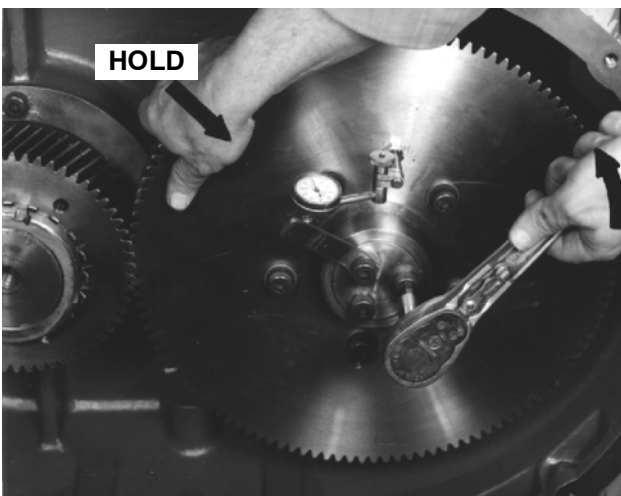

FIGURE 31
31. **SETTING THE INTERLOBE CLEARANCE** - FIGURE 31. The interlobe clearance is divided with 2/3 on the discharge side and 1/3 on the suction side. Hold the gear from turning. Move the shaft counterclockwise with a wrench just enough to obtain 1/3 of the indicator reading obtained in Step 29.